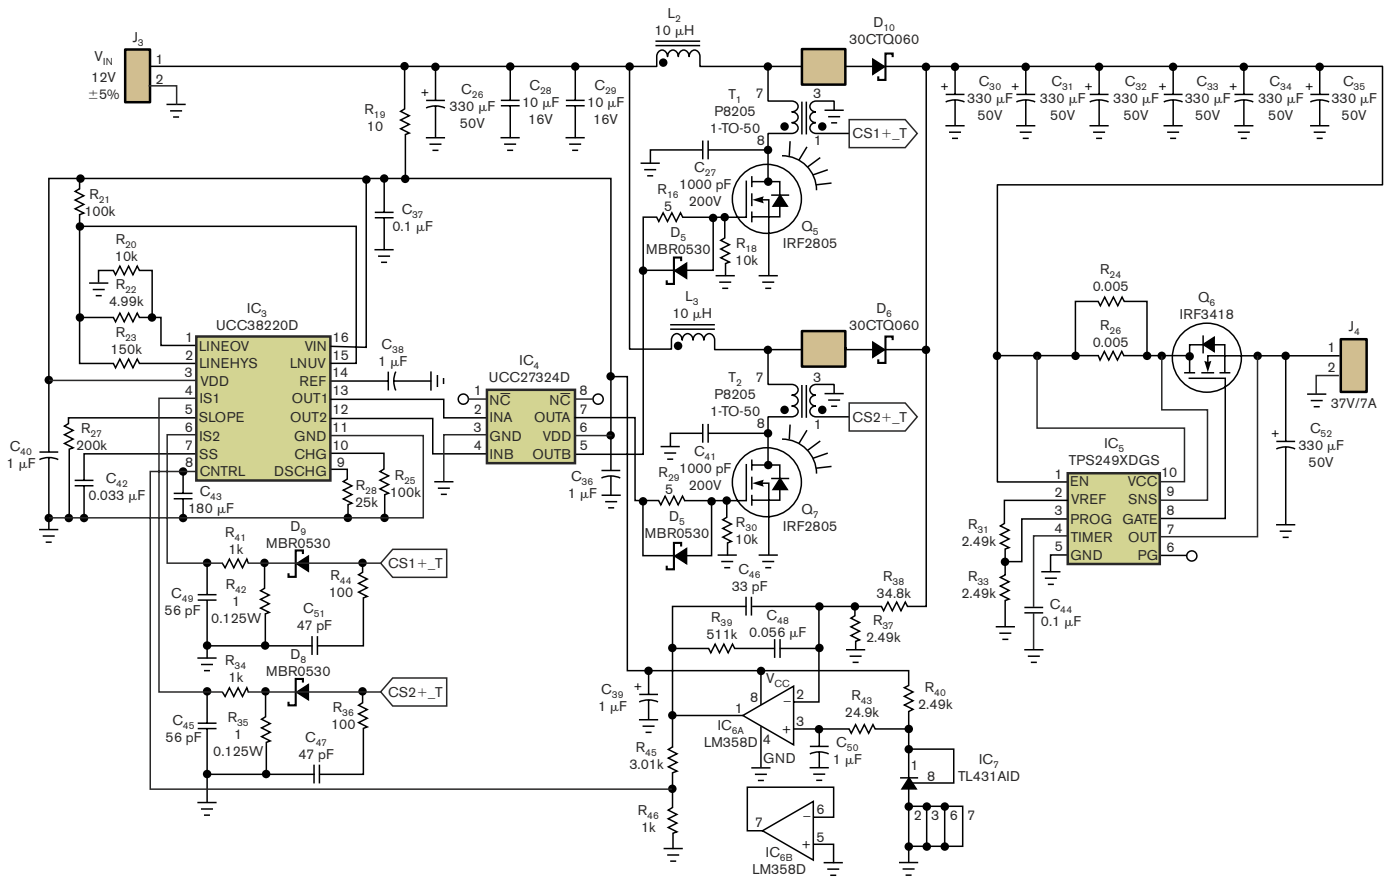

Figure 8 This interleaved design halves the output-capacitor requirements.
**Figures 7** and **8** show the completed single-phase- and interleaved-boost-converter designs. In the single-phase design, a UCC38C43 PWM (pulse-width-modulation) controller operating in voltage mode drives a pair of MOSFETs. Because the boost converter offers no way to limit the output current in the event of a short circuit, a TPS2490 hot-swap circuit with over-current protection was added during testing to halt current flow during overcurrent faults. **Figure 8** illustrates the interleaved design using a UCC38220 dual-interleaved PWM controller.